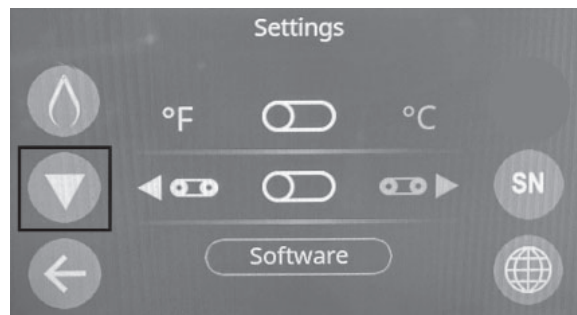

Figure 31
- 8. Model Selection – From the settings main menu, Press the “▼” as highlighted in (Figure 31) below.